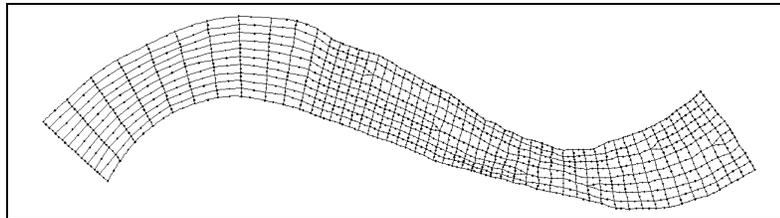

Figure 11. Example of mesh after smoothing.
3. Select *Nodestings / Smooth*. The mesh boundary will be smoothed as shown in Figure 11.